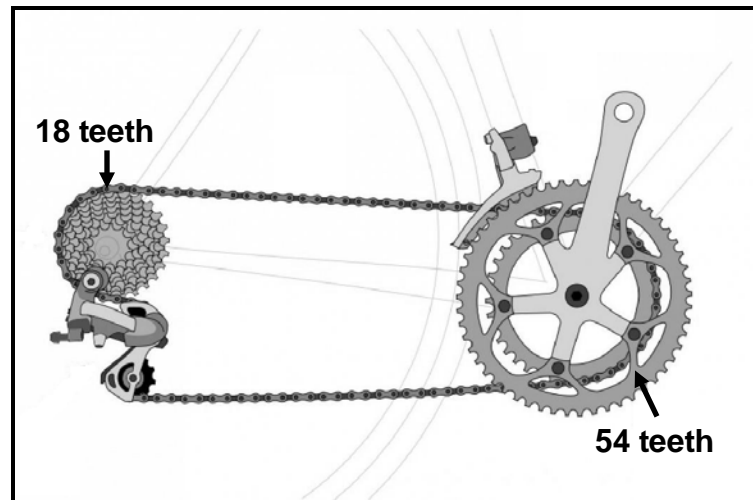

FIGURE 1.4
- 1.18 Determine the speed ratio of the chain drive of the bicycle, as shown in FIGURE 1.4.